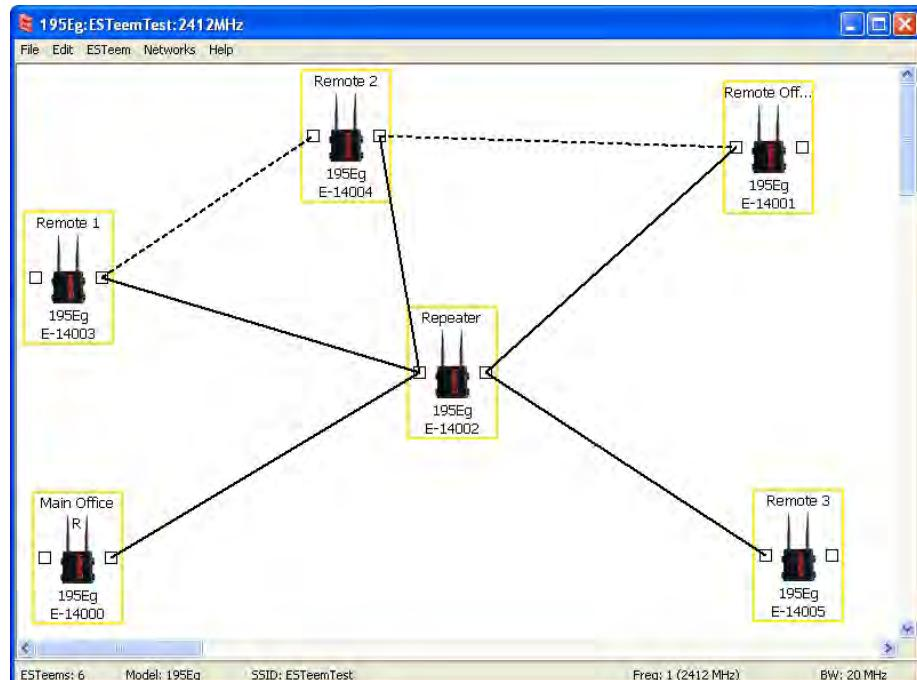

Figure 17: Mesh Network Configuration
2. Move the ESTEEM 210 icons on the screen to simulate the layout of the diagram. Draw connection lines between the primary wireless links modems in the same order as the network layout (Figure 17).
in the repeater Mesh configuration (Figure 17). For detailed instruction on Mesh network configuration, refer to Chapter 7 of this User's Manual.